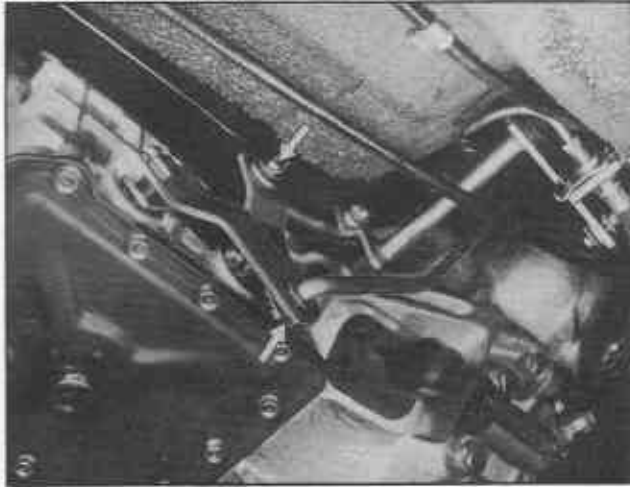

Fig. TM-8 Disconnecting remote control linkage
6. Disconnect the lower shift rods from the shift levers and remove the cross shaft assembly from the transmission case (See Fig. TM-8).